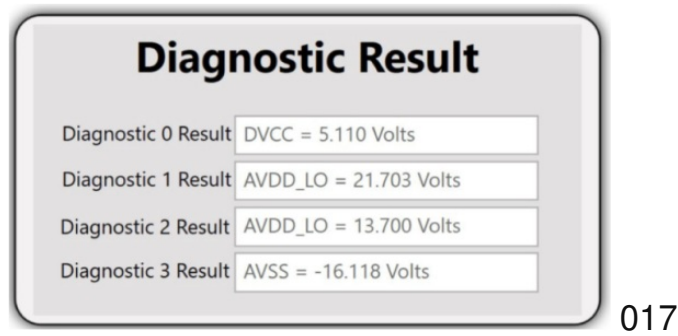

Figure 17. Diagnostics Measurements
3. A user can view the results at **Diagnostic Result** view, as shown in Figure 17. Green indicator lights up at **Diagnostics Results** tab, which indicates active diagnostics measurement. Alternatively, to plot the results in the **Analysis** tab, click **Proceed to Analysis** button at the bottom right corner. For more details on Analysis tab, see the Analysis Tab section.